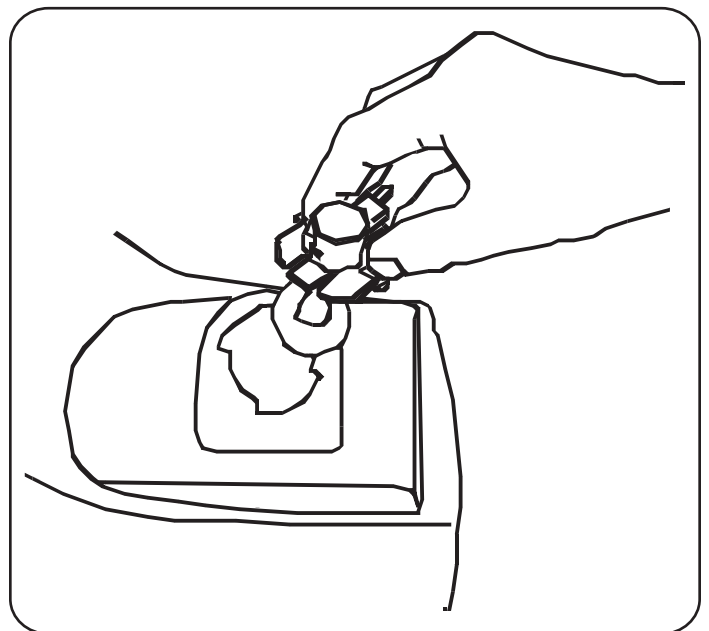

Figure 7
- Rotate the socket assembly approximately a ¼-turn to align the socket tab with the reflector housing notch; then withdraw the bulb and socket assembly from the reflector housing. See Figure 7.
5. Align a locking post of the bulb base with the notch in the socket, then push the bulb inward and turn clockwise to lock. See Figure 7.